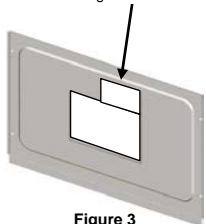

Figure 3
(5) Attach the label (enclosed part ⑤), which has the cautionary notes on replacing the circuit board, to the control box cover. (Figure 3)
(6) Wrap the pipe on the unit with the pipe cover (enclosed part ⑦) and fix it in place with a band (enclosed part ⑥) to protect it from coming in contact with the unit as necessary (refer to the figure at right).